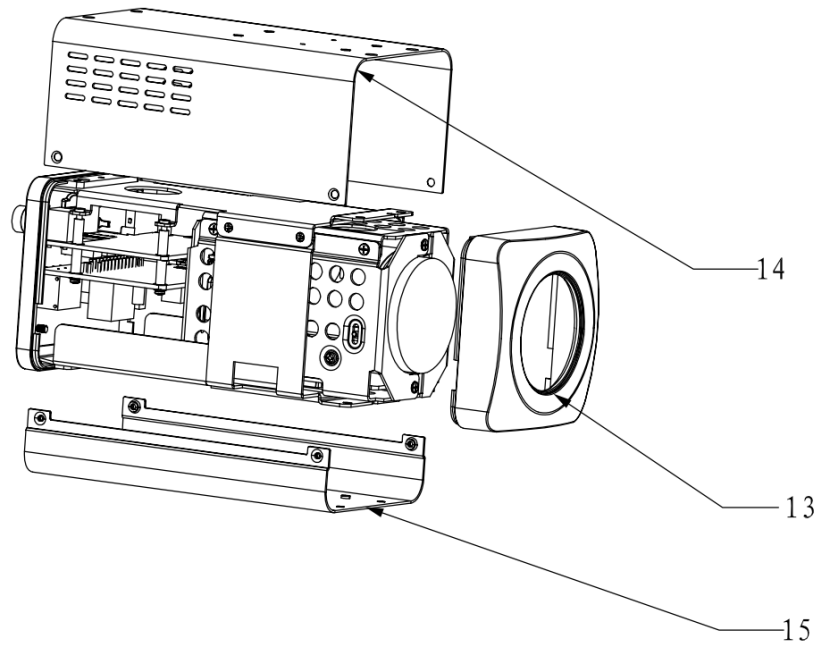

Figure 1-9
- b) Refer to Figure 1-9.to open the cover.